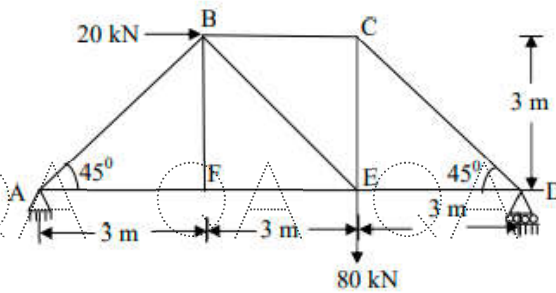

Figure 3
4. Compute the vertical deflection of joint E by unit load method figure 3. [10]